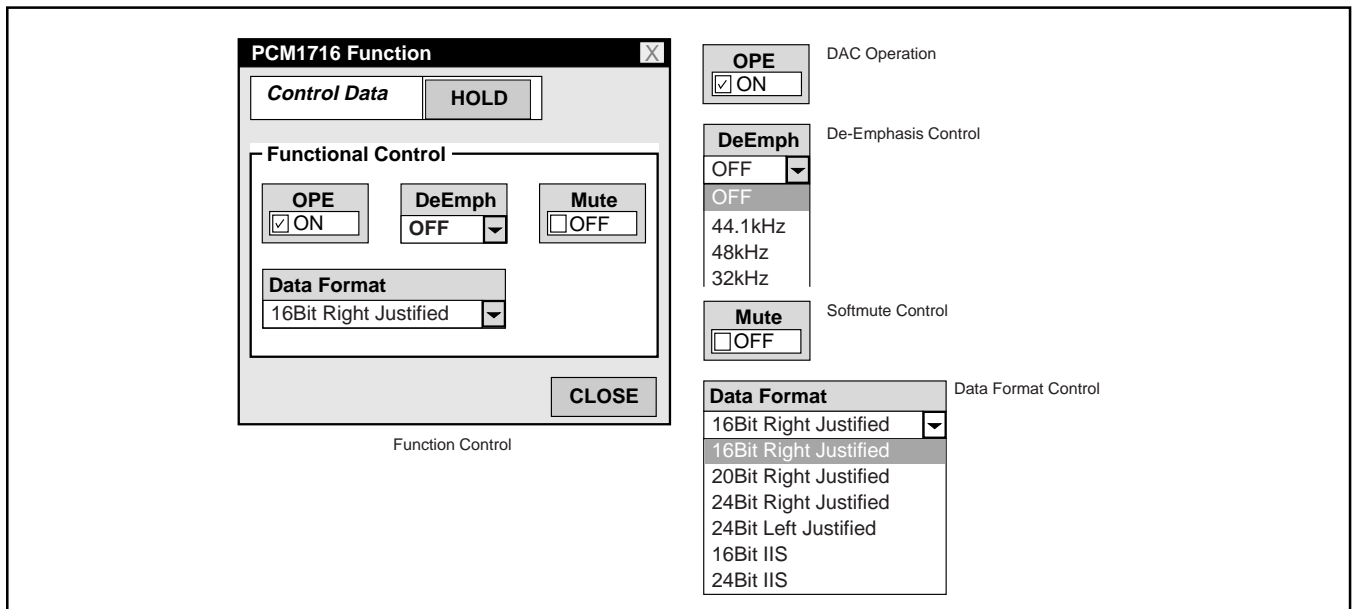

FIGURE 9. Function Control.
When Function (F) is selected from the menu, the function control screen is displayed (Figure 9).